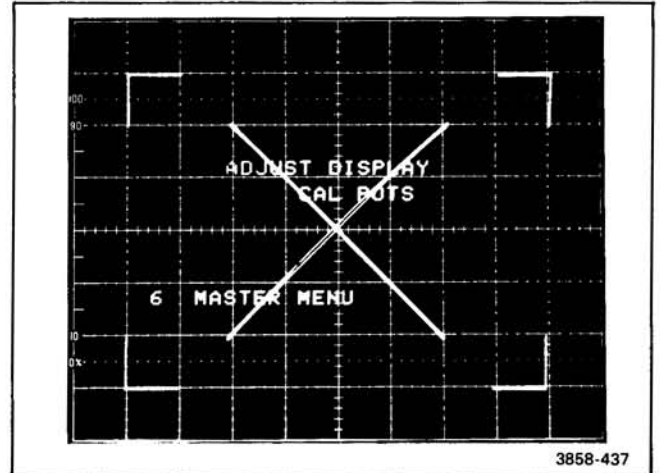

Figure 4-9. Display Adjust Pattern.
- While observing the DISPLAY CAL PATTERN displayed on the oscilloscope mainframe crt, set VERT GAIN, VERT CTR, HORIZ GAIN and HORIZ CTR adjustments to place corner markers of displayed adjustment pattern on center 6 × 8 divisions of graticule, as shown in Figure 4-9.
- Set front-panel VECT LIN adjustment for minimum trace separation of diagonal lines on DISPLAY CAL PATTERN as shown in Figure 4-9.